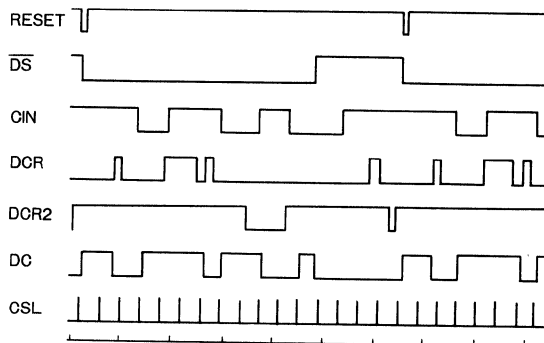

Fig.15
(2) DISK CHANGE/(INDEX) (Table 2, Fig.15参照)